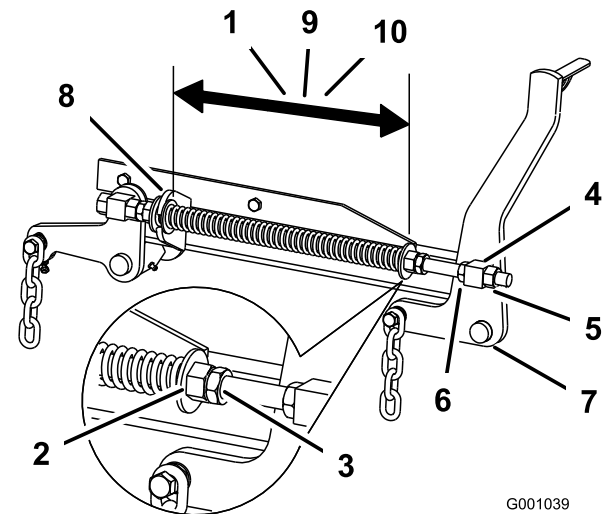

Figure 78
- Check the distance between the two large washers, it needs to be 11-1/8 inches (28.2 cm) for 52 inch mower decks, 10-1/2 inches (26.7 cm) for 60 inch mower decks or 11-1/2 inches (29.2 cm) for 72 inch mower decks (Figure 78).
- Adjust this distance, by loosening the spring jam nut and turning the nut in front of each spring (Figure 78). Turning the nut clockwise will shorten the spring; counter-clockwise will lengthen the spring.
- Lock the nut into position by tightening the spring jam nut (Figure 78).